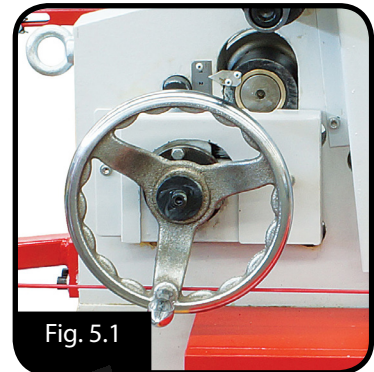

Fig. 5.1
- a. Place the steel plate in the machine and adjust up the clamping roller using the hand wheel (Fig.5.1)to suit the plate thickness.